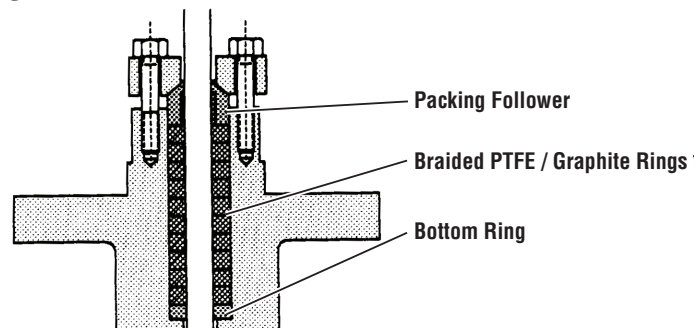
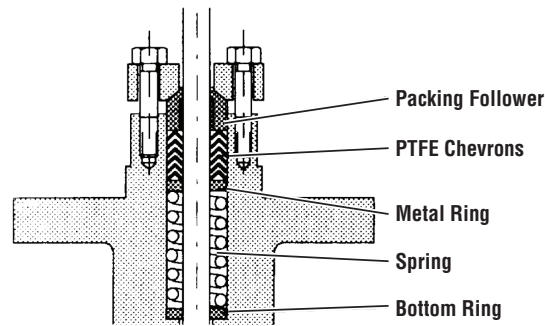
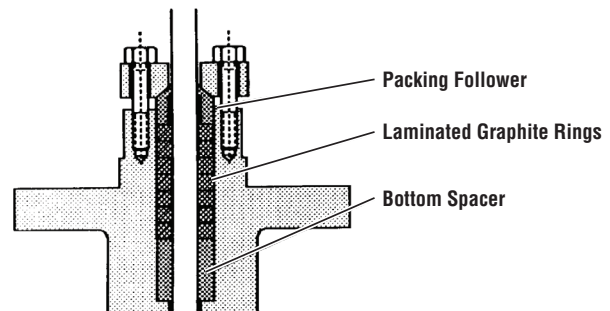

Figure 3 Installation sequence for Braided PTFE / Graphite Type packing
Figure 4 Installation sequence for PTFE Chevron Type packing
Figure 5 Installation sequence for Laminated Graphite Packing
NOTE: See **Figure 3**, **Figure 4**, and **Figure 5**.
1. Place spacers and packing ring over stem and into packing box in the order shown in **Figure 5**, one at a time, seating each firmly and using care not to tear rings on the stem threads. Adjust the packing gland nuts equally: finger tight plus 1/6 turn (one flat of nut).